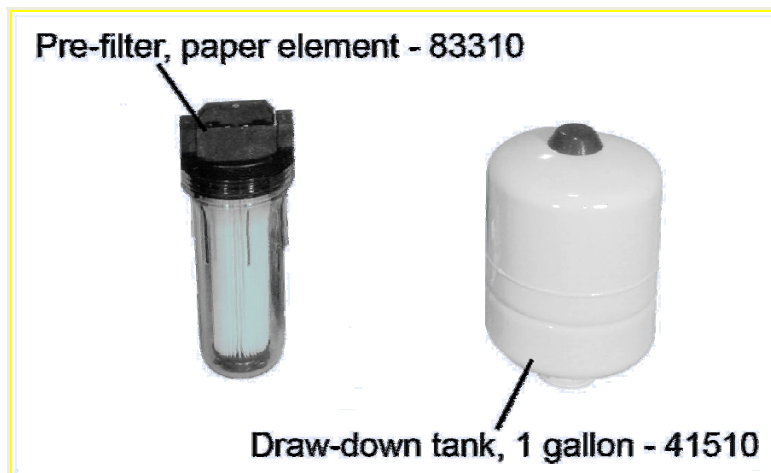

Figure 8 - Accessories
4. Install the one-gallon drawdown tank on the outlet side of the unit. See Fig. 8. This tank is included to prevent the pump from starting and stopping quickly ("short cycling") when there are short-term demands for small amounts of water.
5. Install a pre-filter on the inlet side to protect the solenoids from sediment clogging. (See Fig. 8). The pre-filter should be a sediment-type filter with a 5 micron rating. Do not use a carbon-type filter.